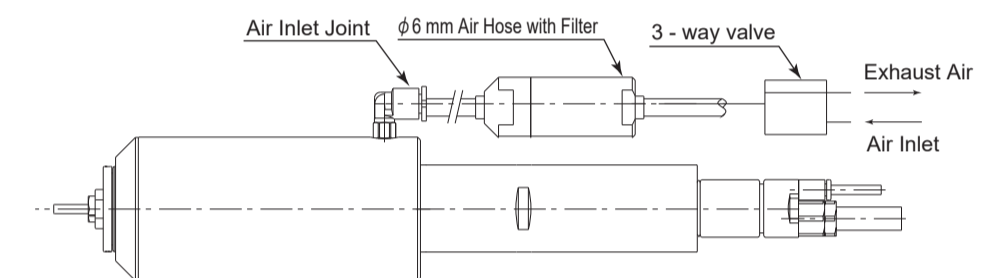

Fig. 3
- Connect the provided φ6 mm Air Hose with Filter and 3 - way valve to Air Inlet Joint shown in Fig. 3.